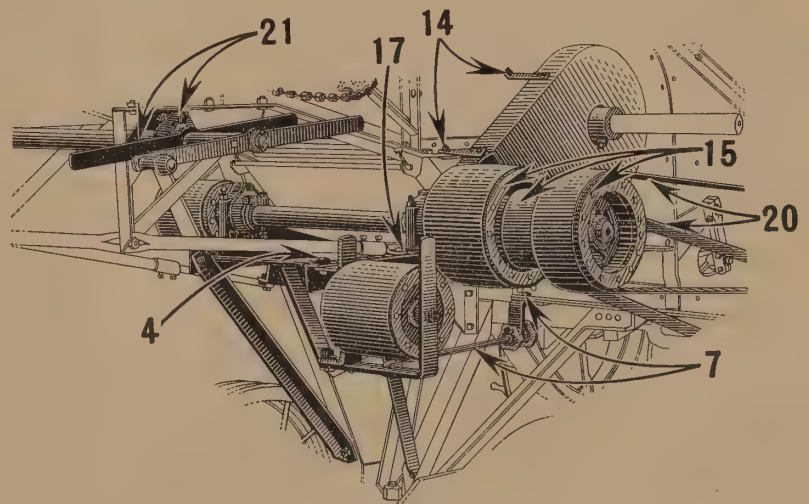

Fig. 21
4. (Fig. 21.) Bolt main drive belt guide support angle to front end of L. H. support angle for countershaft.
7. (Fig. 21.) Bolt bracket for belt guide adjusting screw to front end of L. H. main frame angle and install adjusting screw, as shown.
14. (Fig. 21.) Bolt safety shield for cylinder drive chain to cylinder support angle and side sheet as shown.
15. (Fig. 21.) Secure pulleys to L. H. end of countershaft, being sure they line up with driven pulleys.
17. (Fig. 21.) Loosen set screws through L. H. telescope pipe and slide shaft into pipe and bolt shaft to L. H. support for countershaft. Tighten set screws in telescope pipe.
20. (Fig. 21.) Splice and attach belts on L. H. side of machine as shown.